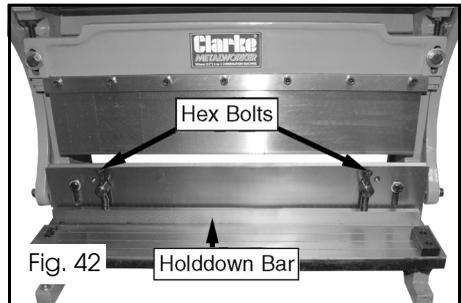

Fig. 42
1. Remove the hex bolts and springs that secure the shear holddown bar (see Figure 42).